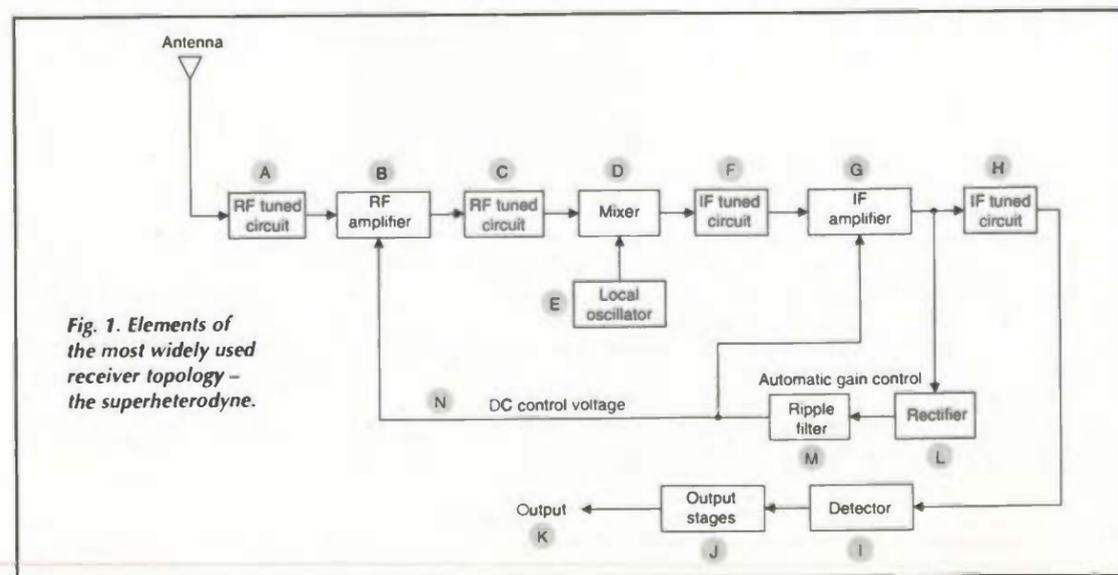

Fig. 1. Elements of the most widely used receiver topology – the superheterodyne.
However, the pressure in the box isn't, unless the box has infinite volume. Figure 1 shows a finite box with a moving diaphragm. It assumed that the diaphragm is ideal, such that it moves an equal amount inwards and outwards due to a sinusoidal drive signal. However, this does not result in a sinusoidal pressure waveform in the box. Figure 1 shows why.
**Fig. 1. Illustration a) represents diaphragms in a sealed box while b) indicates pressure resulting from 10% volume change. Drawing c) shows how the pressure waveform is distorted.**
The principal task of the front-end and frequency-translator sections of the receiver in Fig. 1 is to select the signal and convert it to the intermediate frequency. In many radio receivers though, there may be additional functions.
In the example of Fig. 1, the receiver is a single conversion design, so there is only one IF amplifier section.